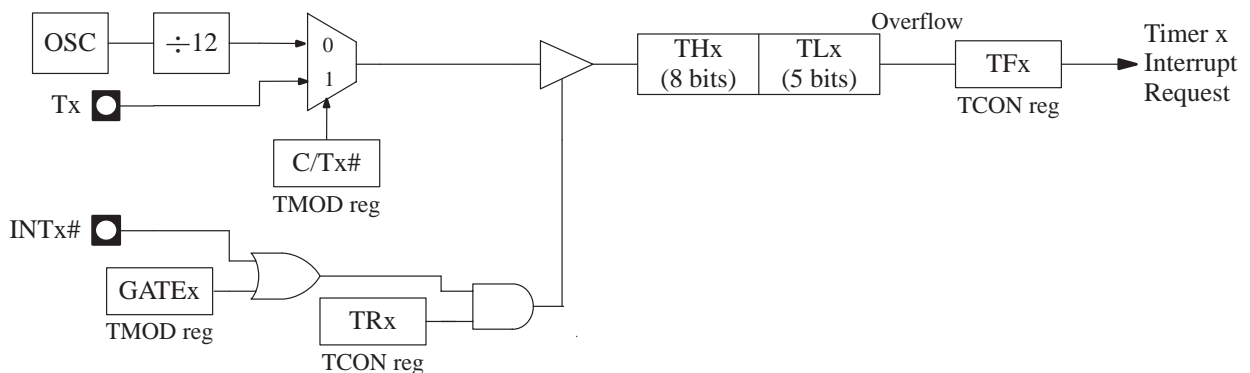
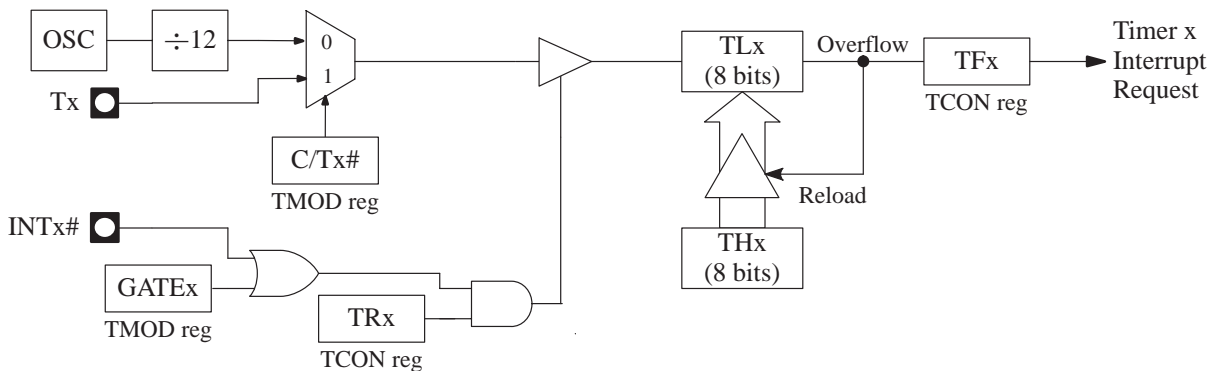
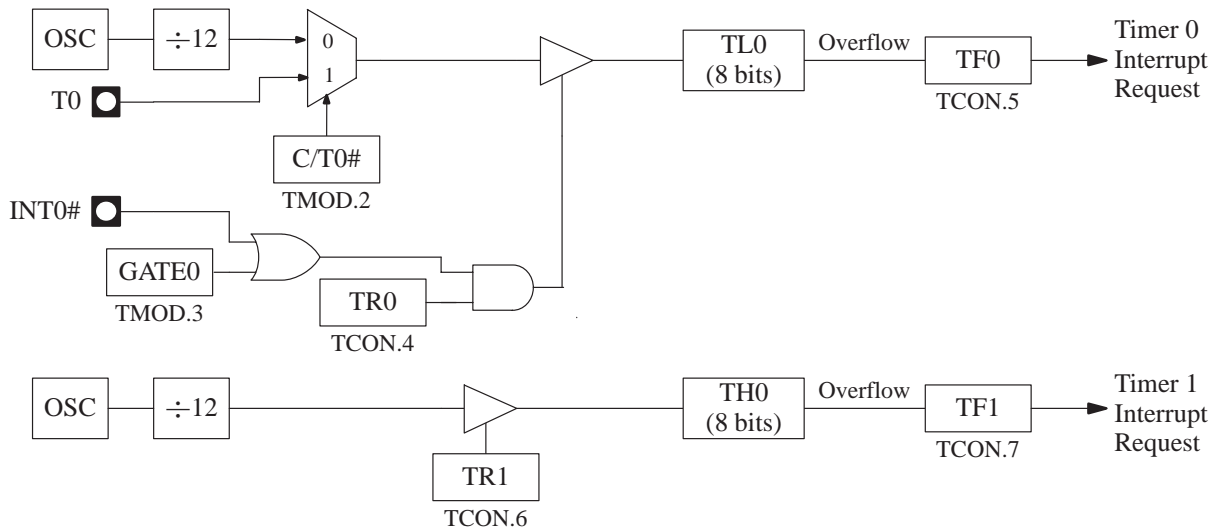

Figure 5.1 Timer/Counter x (x= 0 or 1) in Mode 0
Figure 5.3 Timer/Counter x (x= 0 or 1) in Mode 2
Figure 5.4 Timer/Counter 0 in Mode 3: Two 8-bit Counters
Timer 0 functions as either a Timer or event Counter in four modes of operation. Figure 5.1 to Figure 5.4 show the logical configuration of each mode.
Mode 0 configures Timer 0 as an 13-bit Timer which is set up as an 8-bit Timer (TH0 register) with a modulo 32 prescaler implemented with the lower five bits of TL0 register (see Figure 5.1). The upper three bits of TL0 register are indeterminate and should be ignored. Prescaler overflow increments TH0 register.
Mode 2 configures Timer 0 as an 8-bit Timer (TL0 register) that automatically reloads from TH0 register (see Figure 5.3). TL0 overflow sets TF0 flag in TCON register and reloads TL0 with the contents of TH0, which is preset by software. When the interrupt request is serviced, hardware clears TF0. The reload leaves TH0 unchanged. The next reload value may be changed at any time by writing it to TH0 register.
Mode 3 configures Timer 0 such that registers TL0 and TH0 operate as separate 8-bit Timers (see Figure 5.4). This mode is provided for applications requiring an additional 8-bit Timer or Counter. TL0 uses the Timer 0 control bits C/T0# and GATE0 in TMOD register, and TR0 and TF0 in TCON register in the normal manner. TH0 is locked into a Timer function (counting $F_{OSC}/12$) and takes over use of the Timer 1 interrupt (TF1) and run control (TR1) bits. Thus, operation of Timer 1 is restricted when Timer 0 is in mode 3.
- Timer 1 functions as either a Timer or event Counter in three modes of operation. Figure 5.1 to Figure 5.3 show the logical configuration for modes 0, 1, and 2. Timer 1's mode 3 is a hold-count mode.
Mode 0 configures Timer 1 as a 13-bit Timer, which is set up as an 8-bit Timer (TH1 register) with a modulo-32 prescaler implemented with the lower 5 bits of the TL1 register (see Figure 5.1). The upper 3 bits of TL1 register are ignored. Prescaler overflow increments TH1 register.
Mode 2 configures Timer 1 as an 8-bit Timer (TL1 register) with automatic reload from TH1 register on overflow (see Figure 5.3). TL1 overflow sets TF1 flag in TCON register and reloads TL1 with the contents of TH1, which is preset by software. The reload leaves TH1 unchanged.